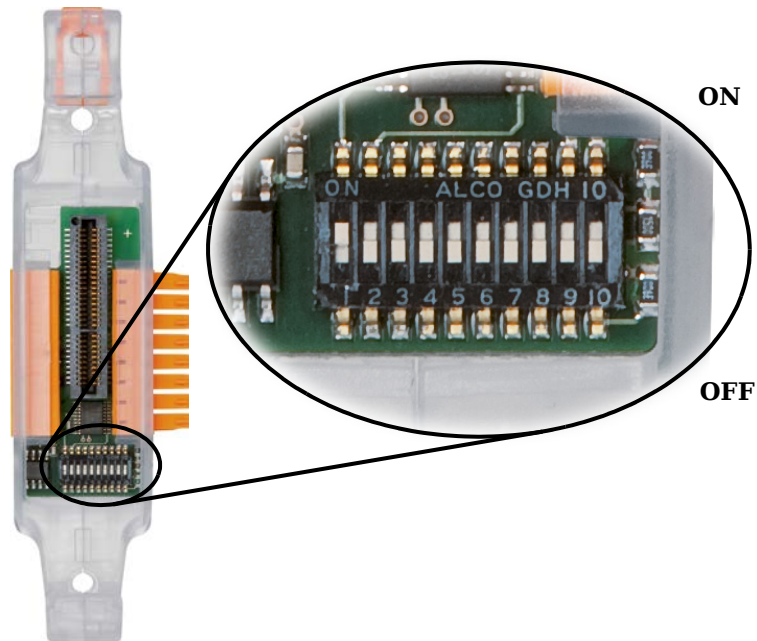

Fig. 4-1 DIP switches in the base, all DIP switches except the first one are OFF (address 1, hot swap activated).
The configuration of the operating mode occurs using the DIP switches in the base (Fig. 4-1). DIP switch 7 is currently not assigned any function and is reserved for later expansions.
Push the DIP switch 8 upwards (ON, refer also to Fig. 4-1 on page 22) to deactivate hot swap. Any content present in the EPROM is not read in this case and the module configuration is used. After plug-in – once the module excitation is present – the module configuration is automatically transferred into the socket and saved, so that the same configuration is present in the socket as in the module.
¹⁾ OFF = Switch down, ON = Switch up (Fig. 4-1)
- Push the DIP switches 9 and 10 upwards to activate the terminating resistances (refer to Fig. 4-1 on page 22).